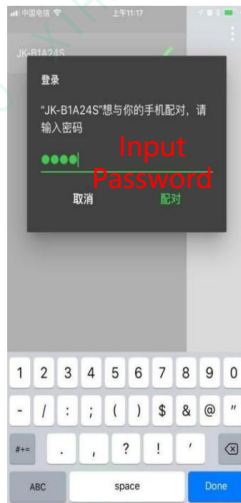

Figure 2
b). Click the icon in the upper left corner to scan for devices. Wait for the scan to complete, then select the name of the device you wish to connect to, such as "JK-B1A24S". During the first connection, the app will prompt you to enter a password. The default device password is "1234". Once the device is successfully connected, the app will automatically save the password. For subsequent connections, you will not need to re-enter it. After opening the app, simply click on the device in the device list to connect automatically. The password entry interface is shown in Figure 2; (Note: Depending on the BMS model, some devices do not require an initial password after connecting via Bluetooth.)
点击左上角的图标扫描设备。等待扫描完成，然后点击需要连接的设备名称，例如“JK-B1A24S”。首次连接时，APP将提示输入密码，设备默认密码为“1234”。设备连接成功后，APP会自动保存密码，下次连接时无需再次输入。打开APP后，直接点击设备列表中的设备即可自动连接。密码输入界面如图2所示；（备注：因BMS型号不同，有些设备通过蓝牙连接后，无需输入初始密码）；